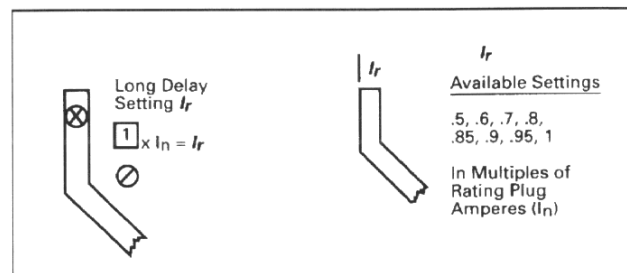

Fig. 8.1 Long Delay Current Settings
ber of settings that must be made is determined by the protection supplied as illustrated in Figs. 8.1 through 8.7. Each setting is made with a rotary switch, using a small screwdriver. The selected setting for each adjustment appears in its respective rectangular viewing window as illustrated in Fig. 1.
The available settings, along with the illustrated effect of changing the settings are given in Figs. 8.1 through 8.7.
There are eight (8) available Long Delay "Pick-up" Current settings, as illustrated in Fig. 8.1. Each setting, called " I_r ", is expressed as a multiple (ranging from .5 to 1) of the rating plug current (I_n).